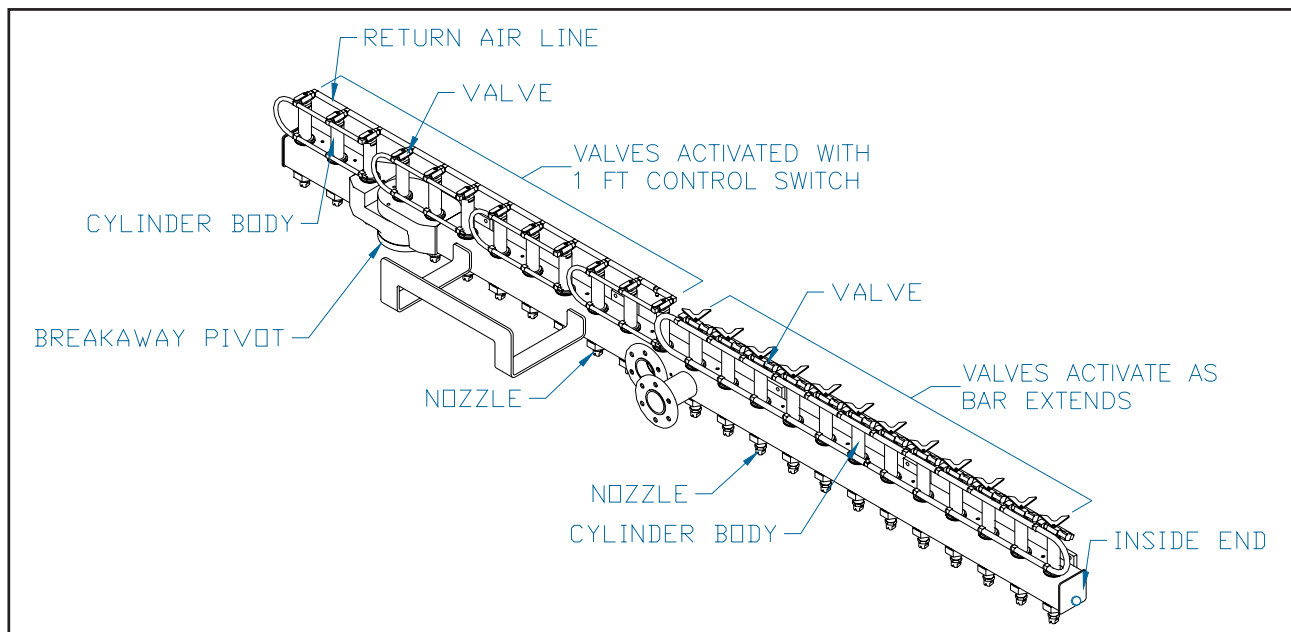

FIGURE 3-9. LEFT SPRAYBAR IN RETRACTED POSITION
2. For spraybar valve assemblies controlled by the 1 foot control switches, align the components as follows: (See Figure 3-9)
3. For spraybar valve assemblies activated by extensions, align the components as follows: (See Figure 3-9)